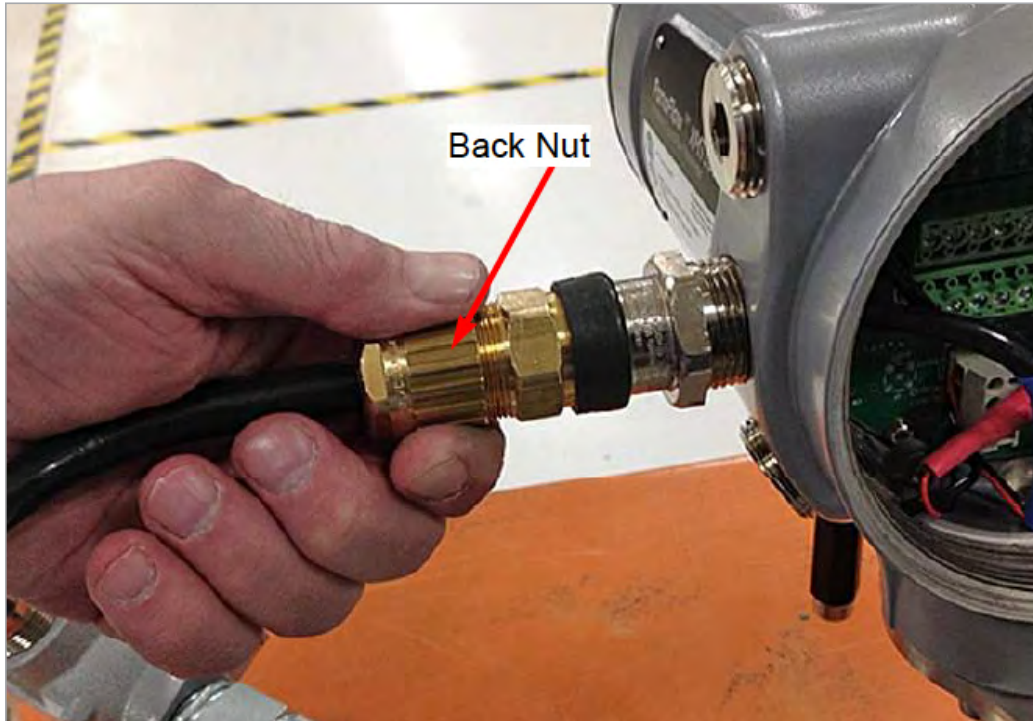

Figure 12: Screwing the back nut over the retaining collar
9. Screw the *Back Nut* over the Retaining Collar (see *Figure 12* below).